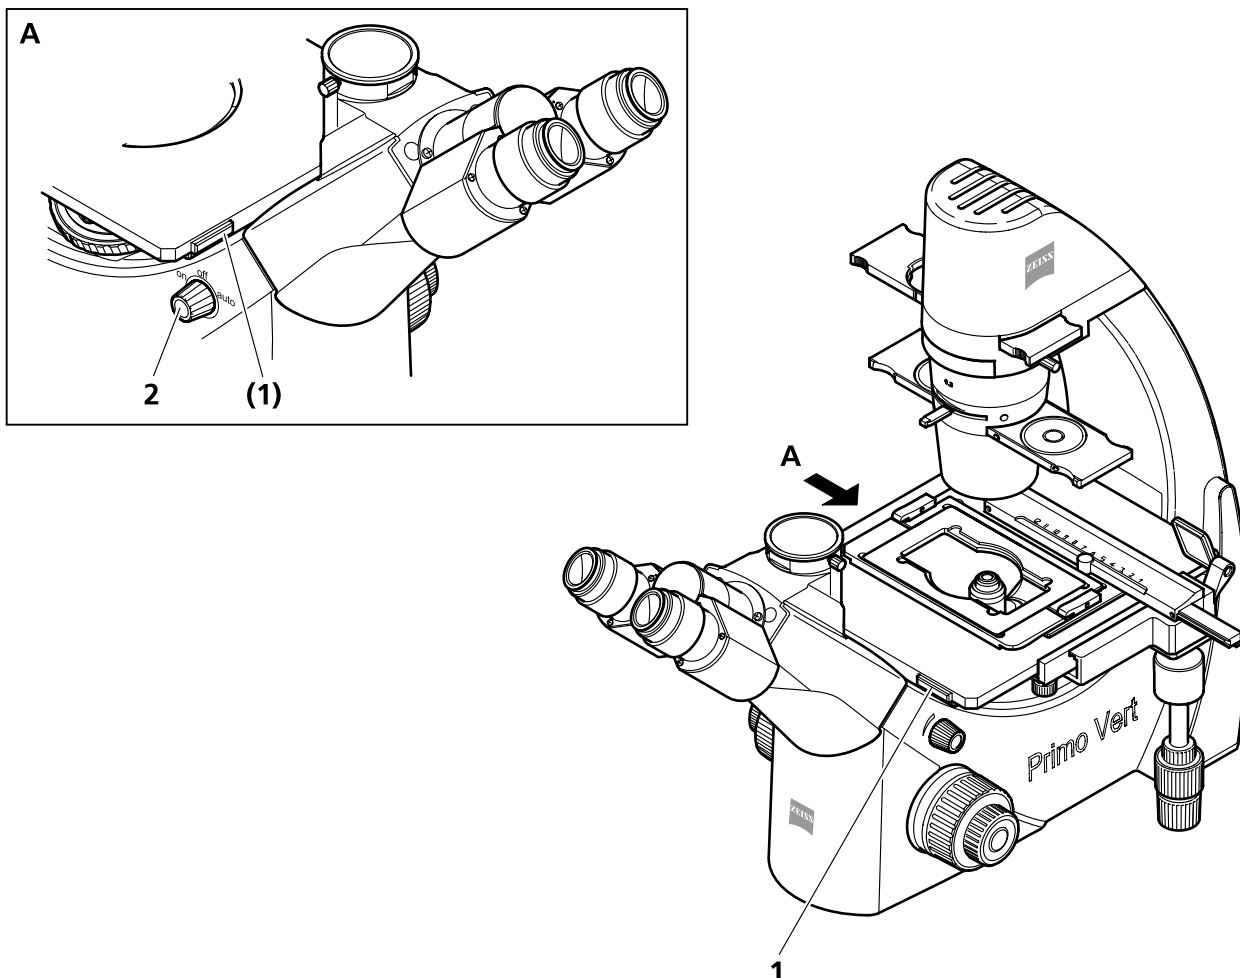

Fig. 11 Switching the microscope on or off
- Switch on the microscope using the rotary knob (Fig. 11/2) (**ON** or **AUTO** position).
The two ON/OFF switches (Fig. 11/1) on the specimen stage for quickly switching the transmitted-light illuminator on and off are inactive. The illuminator remains continuously switched on.
The ON/OFF switches (Fig. 11/1) for quickly switching the transmitted-light illuminator on and off are active. So, the illuminator can be switched off and on again quickly. After an operation time of 15 minutes, the illuminator switches off automatically and goes to standby mode. Upon actuating one of the ON/OFF switches, the illuminator switches on again. When actuating the switch once more during operation, the 15-minute period will start again from the beginning.
- After finishing work, switch off the microscope with the rotary knob (Fig. 11/2) (**OFF** position).